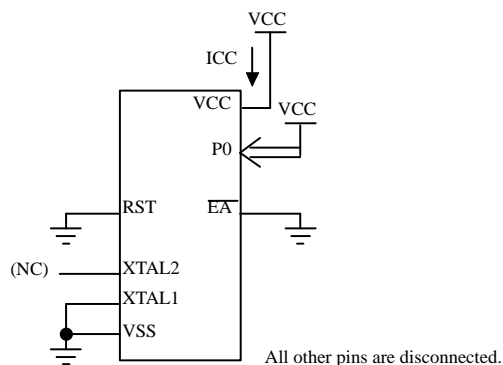

Figure 19. ICC Test Condition, Power Down Mode.
2. Idle ICC is measured with all output pins disconnected; XTAL1 driven with TCLCH, TCHCL = 5ns, $V_{IL} = V_{SS} + 0.5\text{V}$, $V_{IH} = V_{CC} - 0.5\text{V}$; XTAL2 N.C.; Port 0 = VCC; EA = RST = VSS (see Figure 19.).
3. Power Down ICC is measured with all output pins disconnected; $\overline{\text{EA}} = \text{PORT 0} = V_{CC}$; XTAL2 NC.; RST = VSS (see Figure 19.).